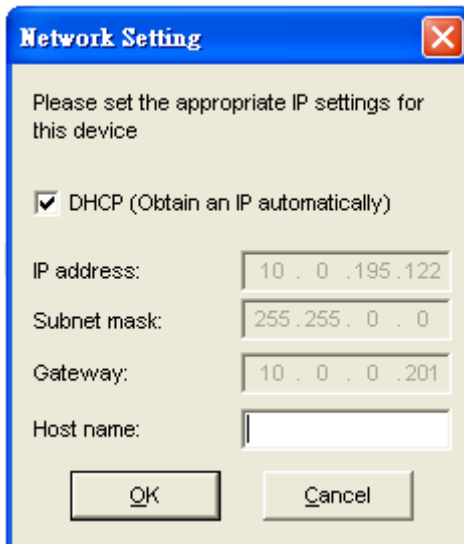

Figure 3.3 SerialManager Auto IP Dialog Window
- >Enable “**DHCP**” on the Network Settings window (Figure 3.3).